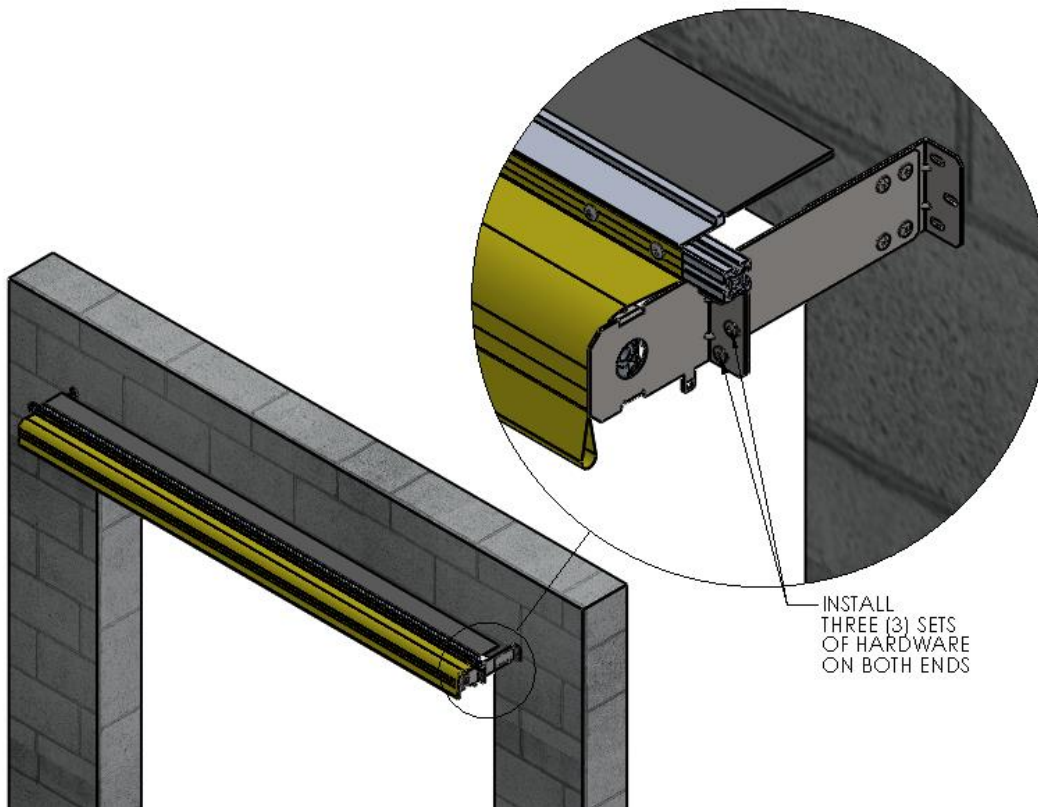

Figure 7 MOUNT HEADER ASSEMBLY TO PROJECTION BRACKETS
1. Using two (2) people, and two ladders at minimum, raise the Roll Header Assembly into place on the Projection Brackets and loosely tighten with three (3) sets of ¼-20 screws and hex nuts per side. Do not fully tighten hardware until the Header Assembly Brackets are aligned with the Projection Bracket's edges. (Figure 7 MOUNT HEADER ASSEMBLY TO PROJECTION BRACKETS)